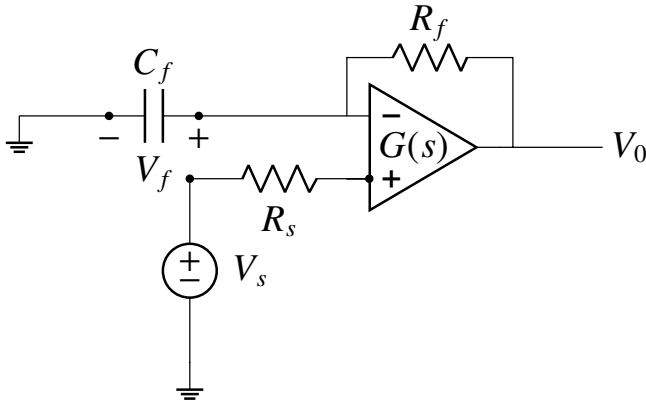

Fig. 1.1
1. The op amp in the circuit of Fig. 1.1 has an open-loop gain of 10^5 and a single-pole rolloff with $\omega_{3dB} = 10$ rad/s.
Using voltage division on Fig. 1.1 we obtain,
The following netlist simulates the closed loop unit step response for circuit in fig. 1.1